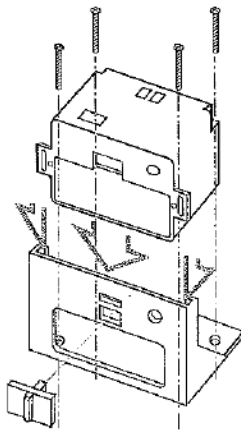

Figure 1
- 1) Secure the fireplace mounting plate to the floor of the fireplace by using the adhesive on bottom of mounting plate or 2 self-drilling screws provided as shown in Figure 1.
- 2) Slide the Remote Receiver into the fireplace mounting plate as shown in Figure 1.